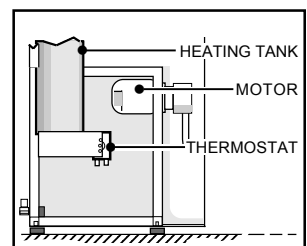

Figure 2b. HC-1 & PC-1, Side View.
- C. On PC-1, PC-2 and HC-1, thermostat is located behind the removable left side panel, Figure 2b.